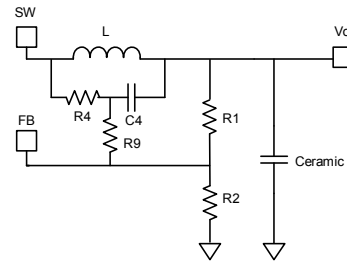

Figure11—Simplified Circuit of Ceramic Capacitor
The output voltage is influenced by ramp voltage V_{RAMP} besides R divider as shown in Figure 11. The V_{RAMP} can be calculated as shown in equation (5). R2 should be chosen reasonably, a small R2 will lead to considerable quiescent current loss while too large R2 makes the FB noise sensitive. It is recommended to choose a value within 5kΩ-50kΩ for R2, using a comparatively larger R2 when Vo is low, etc., 1.05V, and a smaller R2 when Vo is high. And the value of R1 then is determined as follow: